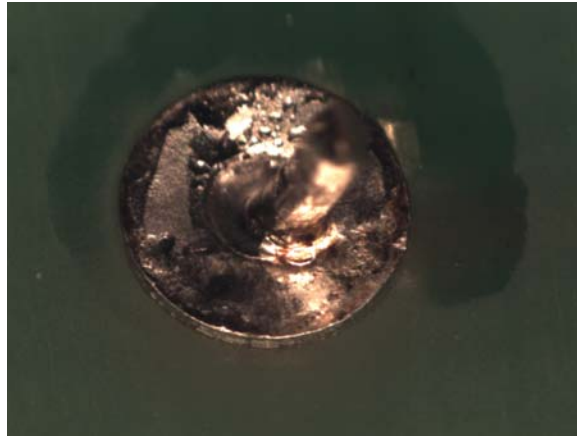

Figure 2 – Not Enough Solder
- **Not enough solder:** An insufficient solder joint is at risk due to poor mechanical strength. In surface mount applications an insufficient joint can be difficult to see because so much of the solder joint is under the component lead. In through hole applications, there can be poor hole fill that is not visible (Figure 2).